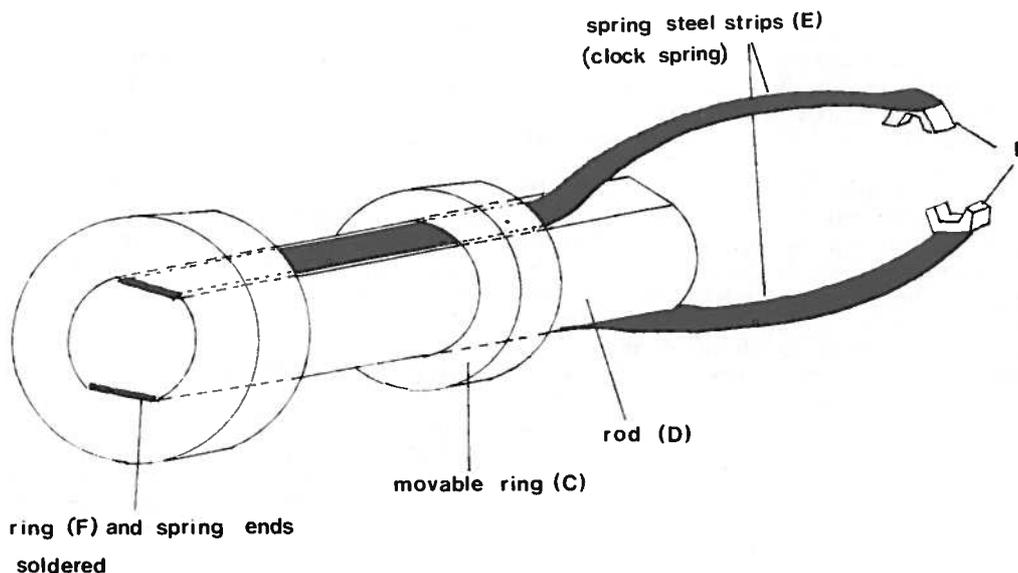

Fig. 3.
Rotating the control knob drives the rod (A In Figs. 1-3) in a 2BA nut so moving the piston in or out of the syringe barrel. Filling the burette by this means would be painfully slow so a mechanism for disengaging the plunger is provided for rapid filling. The 2BA nut (B) is in two halves so that it can be made to close or open, and so engage or disengage the threads on the rod, by sliding the brass ring (C) away or towards the nozzle end of the syringe. This is shown in more detail in Fig. 3.